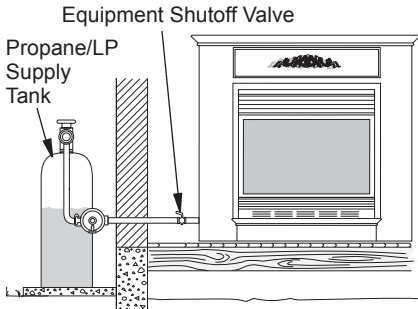

Figure 28 - Checking Gas Joints Shown with Optional Mantel (Propane/LP Gas)
3. Check all joints from gas meter for natural or propane/LP supply to equipment shutoff valve (see Figures 28 and 29, page 19). Apply a noncorrosive leak detection fluid to gas joints. Bubbles forming show a leak.
4. Check all joints from equipment shutoff valve to thermostat gas valve (see Figures 28 and 29). Apply a noncorrosive leak detection fluid to gas joints. Bubbles forming show a leak.